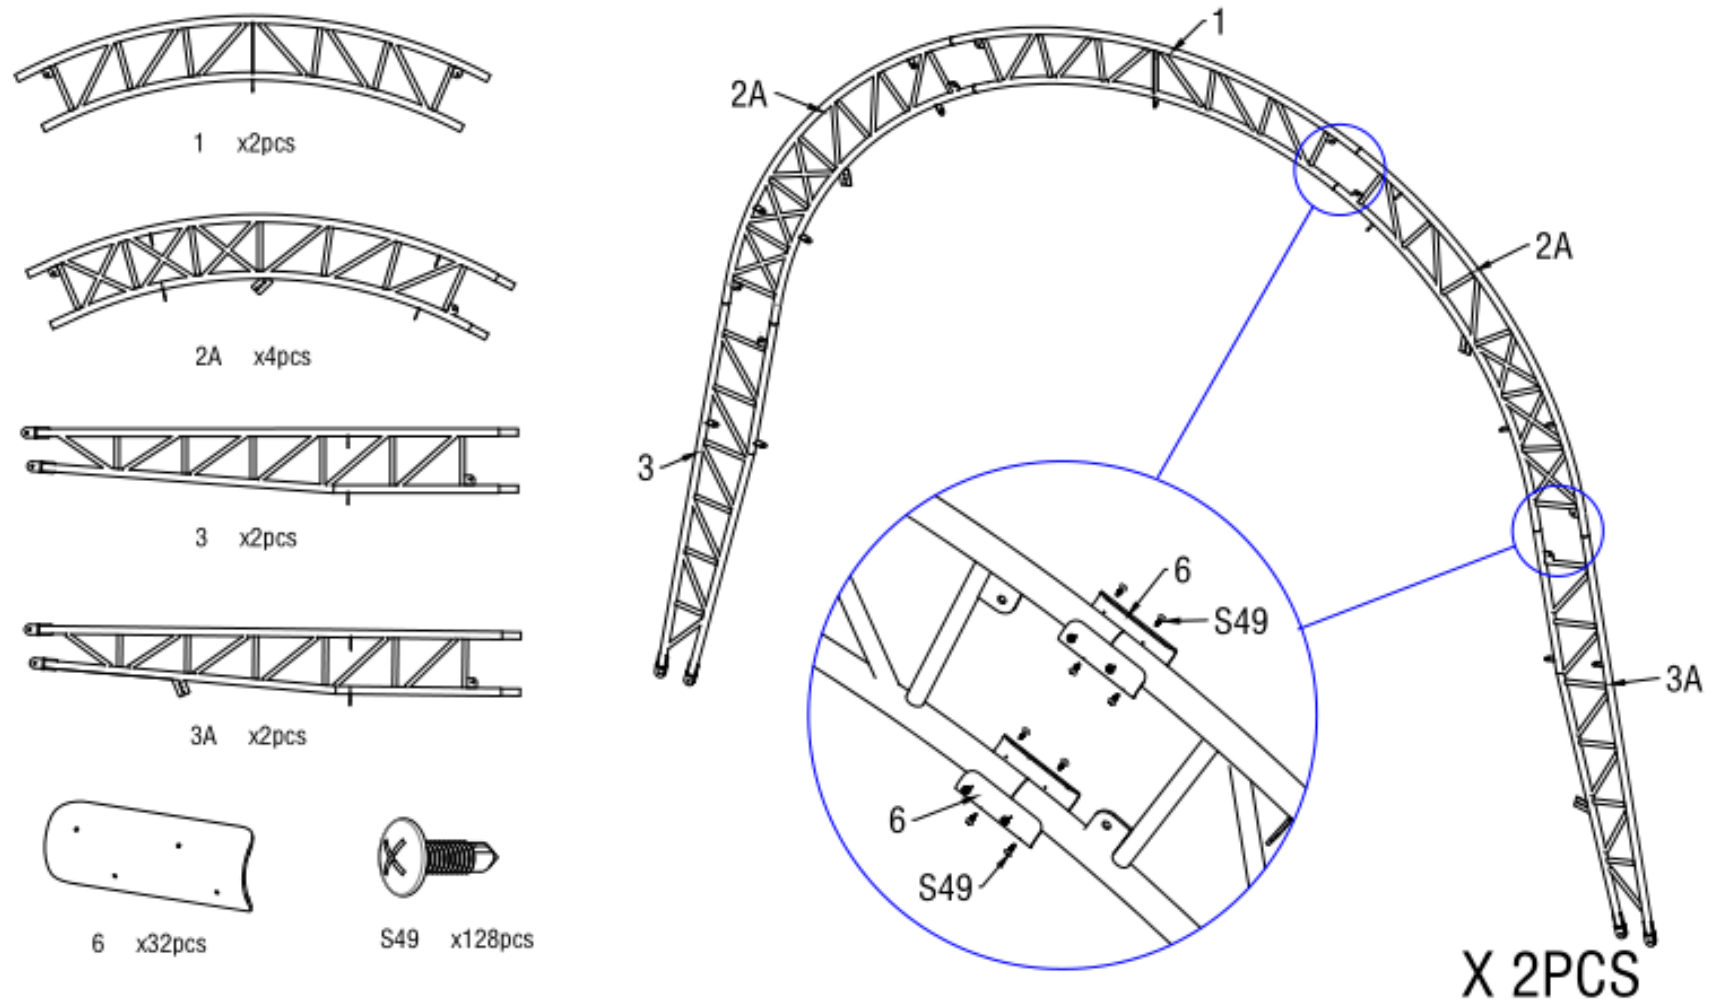

Figure 3
1. As Figure 3 shown to find one Top roof tube (No.1), two Roof upper curving tube in the front and back door(No. 2A), two Roof middle curving tube in the front and back door (No. 3A) ,one Lower curving tube in front and back door(4A), one Lower curving tube (4) and assemble the first group and final group of arch with Screw M4x16 (No.S49). **DO NOT install the screw on the top of the truss where the fabric will rest.**